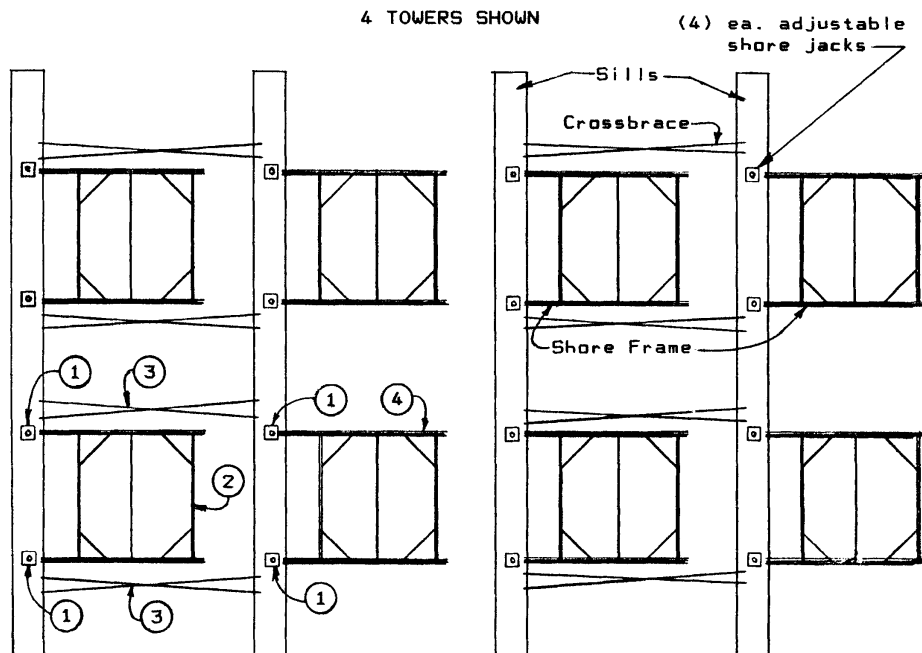

Fig. 32
3. Distribute base units of each tower for entire area before erection is started. Base unit components are four screw jacks or base plates (Fig. 32 ①), two crossbraces (③), and two frames (④).